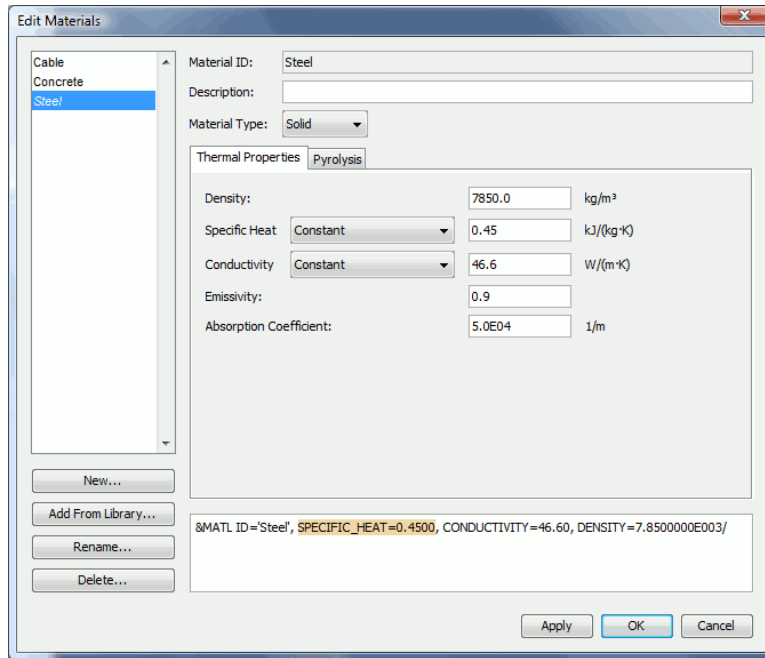

Figure 2.10. The materials dialog showing the FDS record preview pane
- **Record Preview** - adds a preview pane to many of the dialogs in PyroSim. This preview pane shows the text that will be produced for the FDS input file. This can be helpful for users that want to understand exactly how PyroSim options correspond to FDS input. An example can be seen in Figure 2.10.